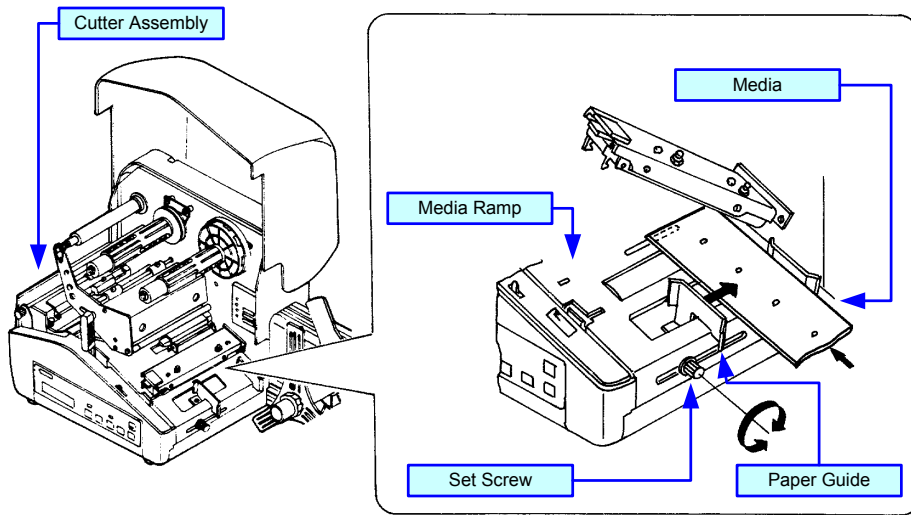

Figure 3-3d, Media Loading
- 6 Feed the media up the media ramp to its respective position (**Figure 3-3d**).